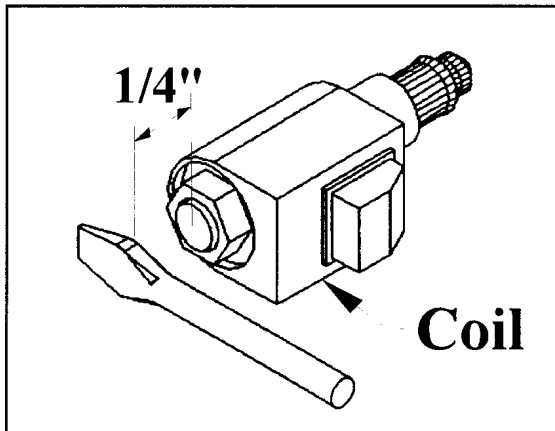

Figure 1
6. To check the solenoids for power, hold a screwdriver approximately 1/4" from the top nut of the solenoid and energize the unit. (Figure 1). If the solenoid is good, it will draw the screwdriver to the nut through magnetic force. If not, the coil must be replaced. The Coil will slip off when the Nut and Wires are removed